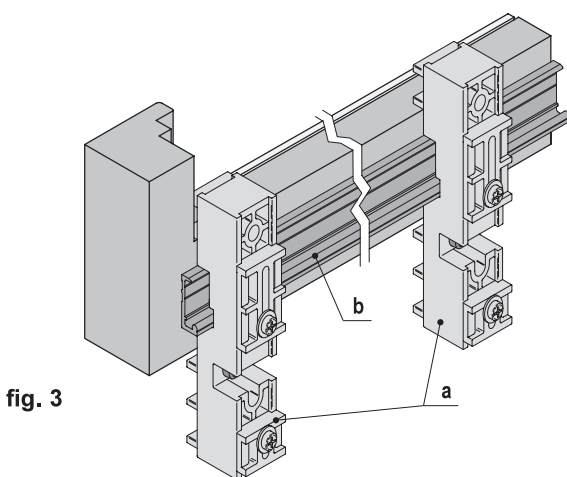

fig. 3
- 3) Position the guide on the head jamb of the frame with the help of the jigs (fig. 3) and fasten everything using the clamps.